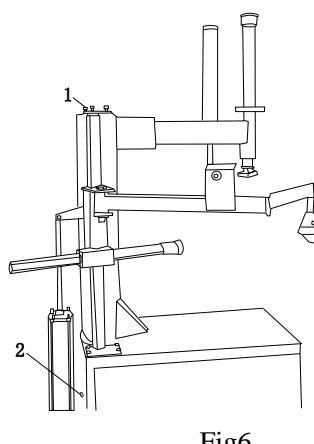

Fig6
4. Fixing the left help arm on the post and cabinet with 10pcs M10 bolts. Put the 8MM pipe into the cabinet from the right reservation hole (2) of the machine and plug on the three-way connection, show as fig6.